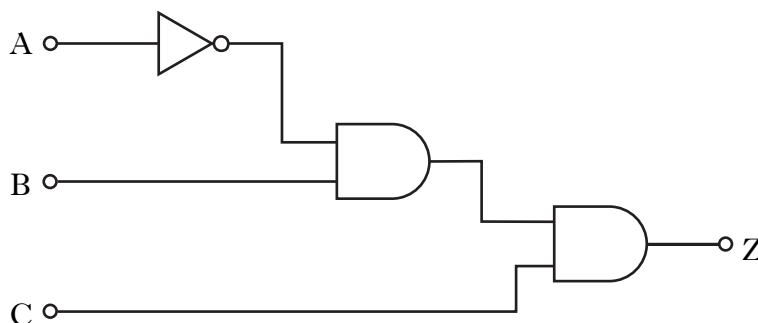

Figure Q11(b)
The logic diagram to control valve (1) is shown in Figure Q11(b).